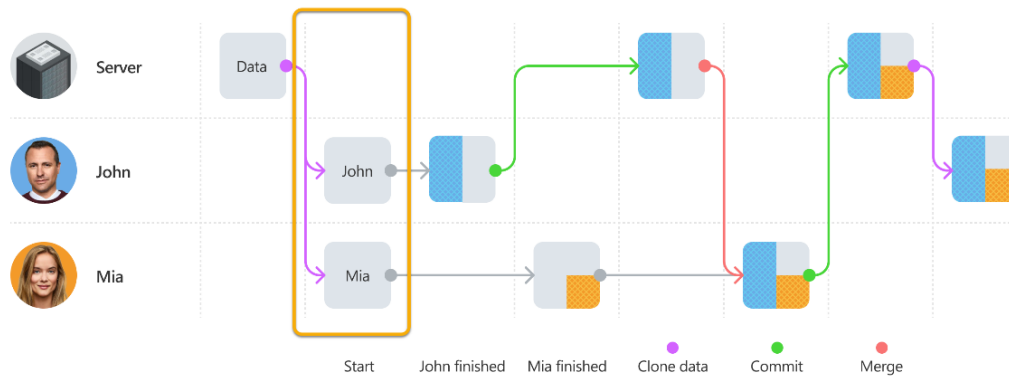

Figure 3. Training Flow – Step2: The team members have a local copy of the project
14. We are now at Step 2 in the flow. Mia and John have a local copy of the project, Figure 3.